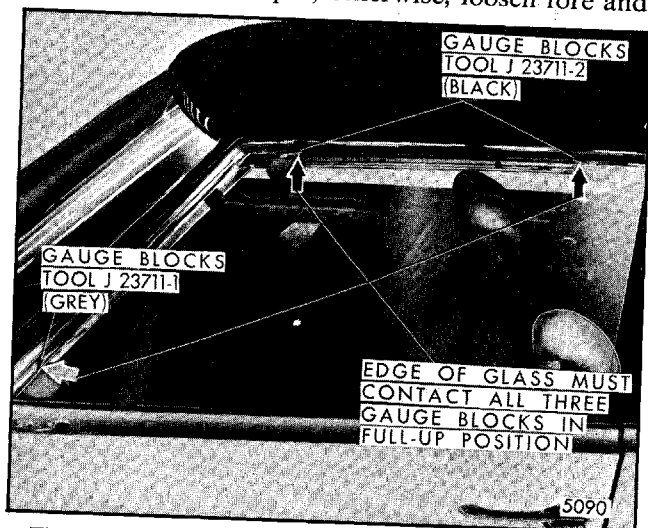

Fig. 5-121-Door Window - Fore and Aft Alignment - "E" Styles
3. Lower front door and rear quarter windows and install gauge blocks, tool J-23711-2 (black) or equivalent into side roof rail weatherstrip retainer as shown in Figure 5-121. Then install gauge block, tool J-23711-1 (grey), or equivalent into windshield pillar retainer slightly above beltline.
If edge of glass contacts all three gauge blocks simultaneously (as shown in Fig. 5-121), proceed with step 7; otherwise, loosen fore and